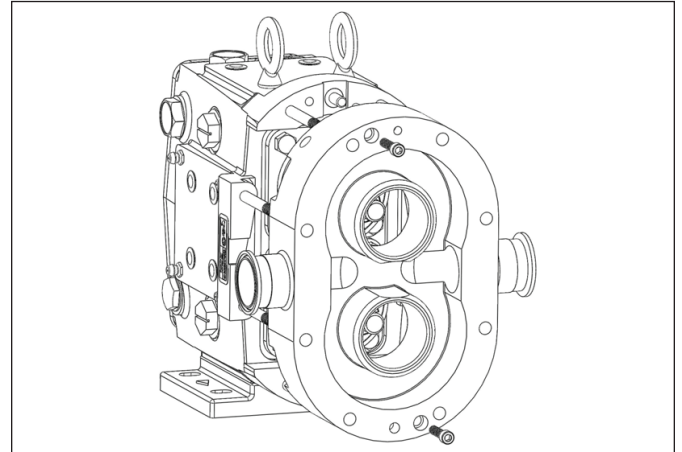

Figure 26. Removing Pump Body
- Remove the two body hold-down bolts using the appropriate driver. Pull the pump body off by sliding it along the studs (Figure 26). If the body is stuck, use a soft mallet to tap the body. Inspect the body for excessive wear, clean, and continue on to seal maintenance. It is important to reassemble the pump body back onto the original gear case because the shafts are shimmed for that particular body.